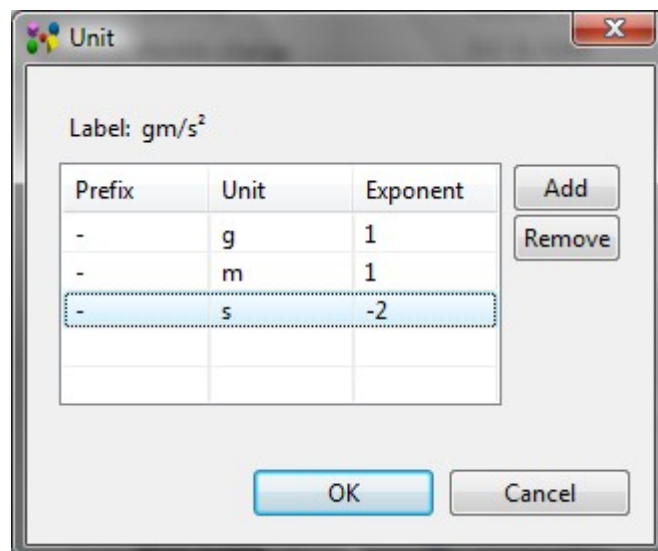

Figure 7. Unit wizard dialog window with unit parameters
- The **Label** above the table displays the quantity representation (see Figure 7).